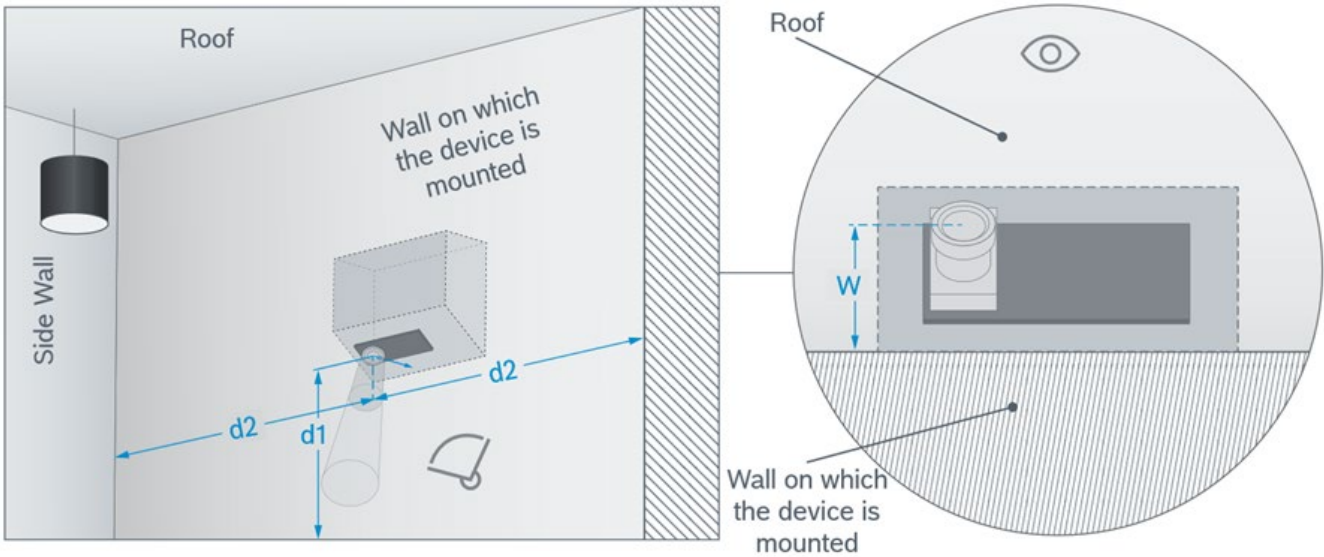
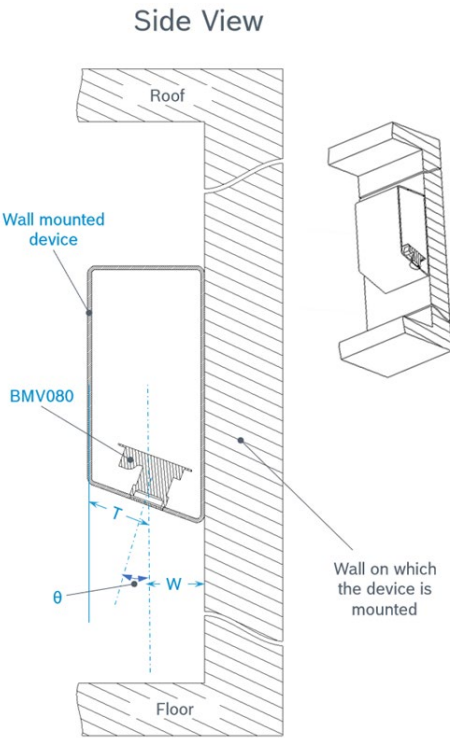

Figure 13: BMV080 (facing down) when mounted closer to the wall on host device
Figure 14: Schematic of BMV080 (facing down) when mounted closer to the wall on host device
- If the BMV080 needs to be mounted closer to the mounting surface (e.g., wall), the sensor must be tilted away from the surface as depicted in Figure 13 and Figure 14